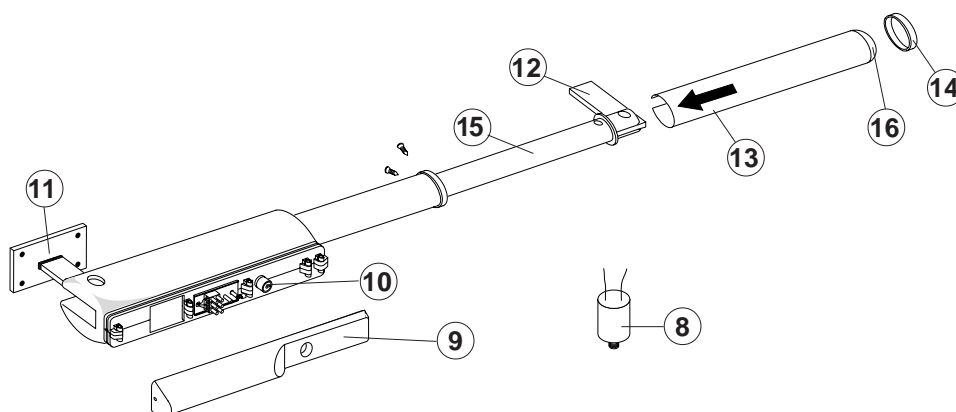

Fig. 4
2.3 Geared motor references (fig. 4)